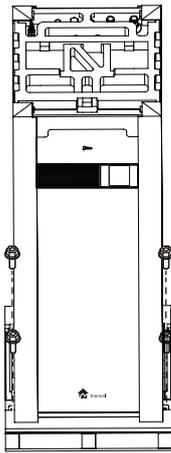

Fig.5-3
- Remove the 4 screws of the wooden base(Refer to Fig.5-3).